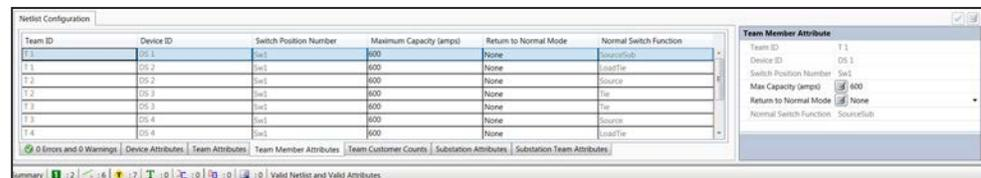

**Figure 77.** The Team Attributes tab is used for editing team parameters.
**STEP 3.** Click on the **Team Attributes** tab to open the Team Attribute dialog box to the right. See Figure 77.